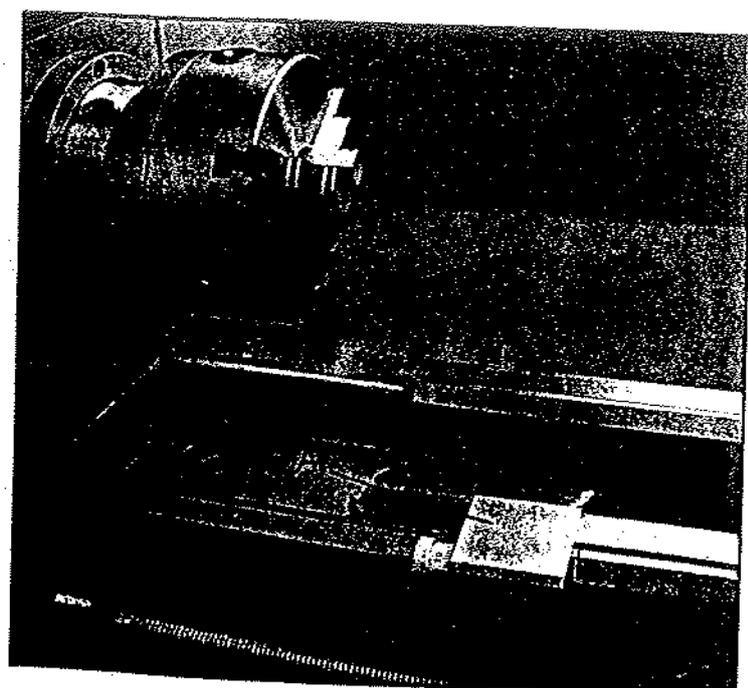

Fig. 15
24. **Micro Carriage Stop (A, Fig. 15)** - located on the lathe bed. Loosen two hex socket cap screws underneath body and slide along bed to desired position. Tighten screw to hold in place.